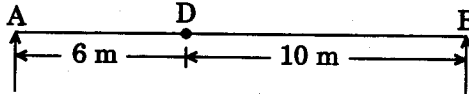

Figure 3
4. (a) Two wheel loads 200 kN and 80 kN spaced 2 m apart move on the span of a girder of span 16 m. Find the maximum bending moment that can occur at a section 6 m from the left end. Any wheel can lead the other. (Figure 3)